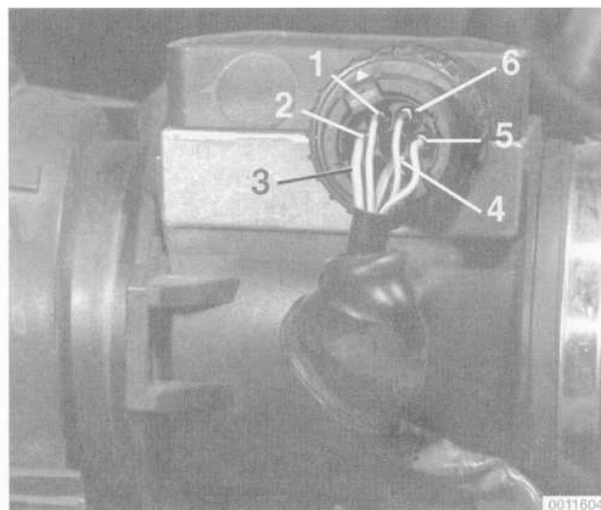

Fig. 12. Mass air flow sensor terminal identification on cars with DME 3.1. Connect voltmeter across terminals 1 (+) and 4 (-) to check meter burn-off voltage.
5. Reinstall the air flow sensor and the harness connector. Peel back the rubber boot from the harness connector. Working from the rear of the connector, connect a digital voltmeter across terminals 1 and 4. See Fig. 12.